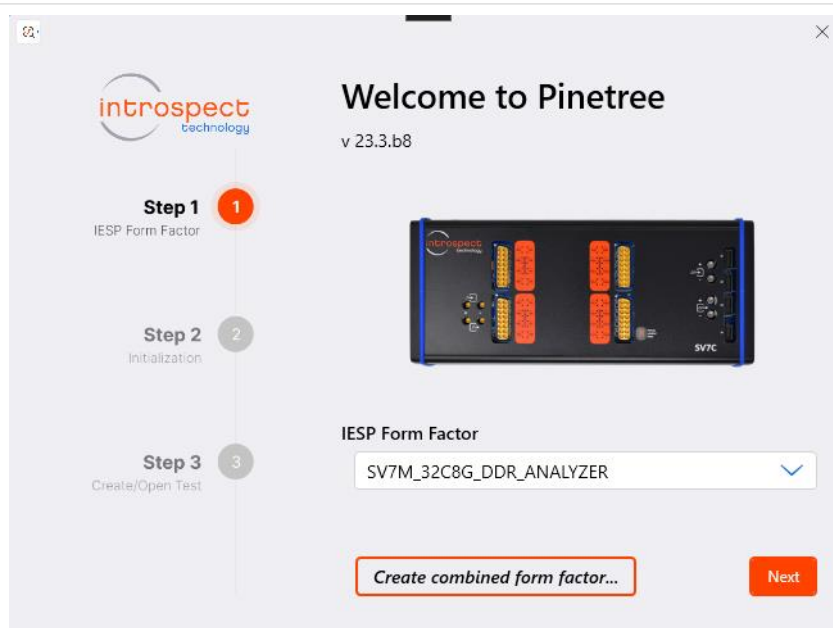

Figure 1: Opening Pinetree with the SV7M\_32C8G\_DDR\_ANALYZER form factor selected
1. Open Pinetree with the SV7M\_32C8G\_DDR\_ANALYZER form factor as in Figure 1 below and create a new test.